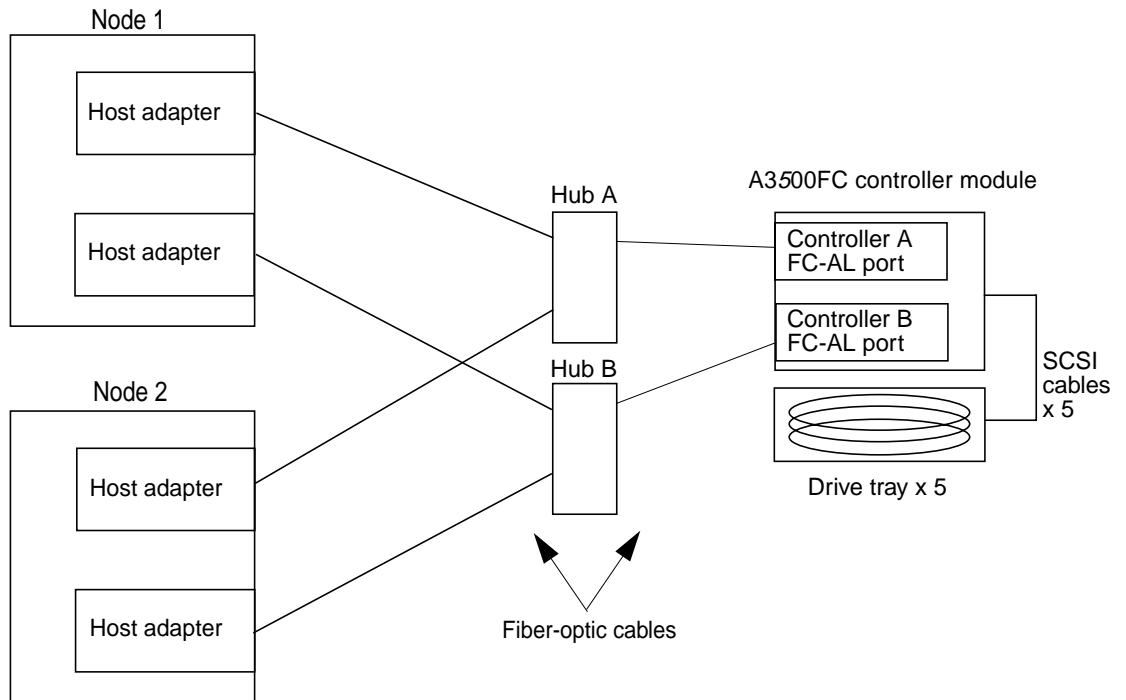

FIGURE A-2 Sample StorEdge A3500FC System Cabling
- See FIGURE A-2 for a sample StorEdge A3500FC system cabling.